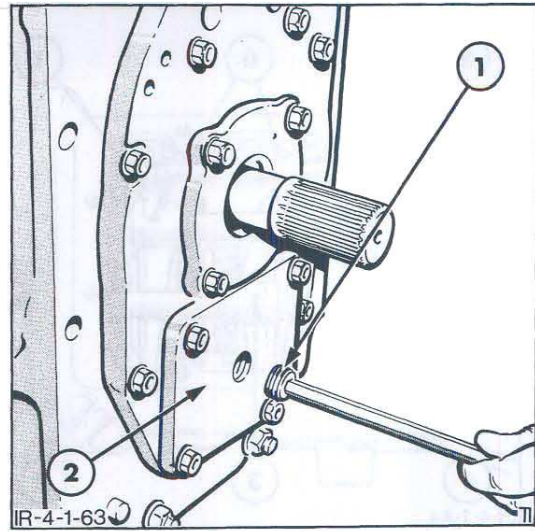

Figure 63
11. Apply thread sealant, see "Specifications" – Chapter 3, to the countershaft bearing cap plug and install the plug into the cap, Figure 63. Tighten the plug to the specified torque, see "Specifications" – Chapter 3.